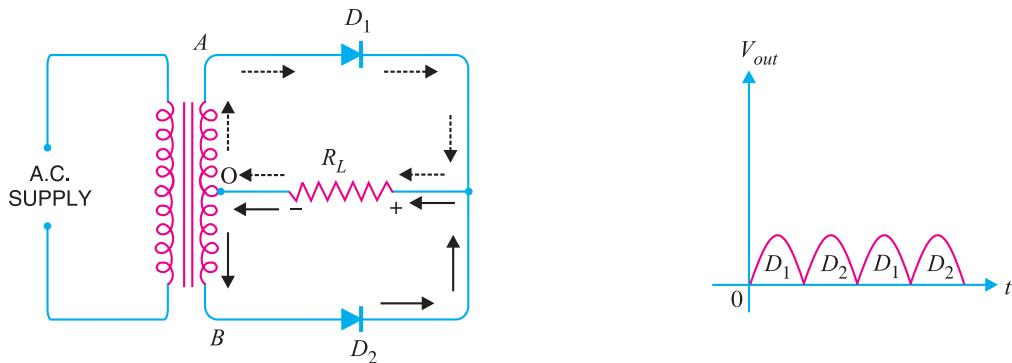

Fig. 6.24
The circuit employs two diodes D_1 and D_2 as shown in Fig. 6.24. A centre tapped secondary winding AB is used with two diodes connected so that each uses one half-cycle of input a.c. voltage. In other words, diode D_1 utilises the a.c. voltage appearing across the upper half (OA) of secondary winding for rectification while diode D_2 uses the lower half winding OB .
Operation. During the positive half-cycle of secondary voltage, the end A of the secondary winding becomes positive and end B negative. This makes the diode D_1 forward biased and diode D_2 reverse biased. Therefore, diode D_1 conducts while diode D_2 does not. The conventional current flow is through diode D_1 , load resistor R_L and the upper half of secondary winding as shown by the dotted arrows. During the negative half-cycle, end A of the secondary winding becomes negative and end B positive. Therefore, diode D_2 conducts while diode D_1 does not. The conventional current flow is through diode D_2 , load R_L and lower half winding as shown by solid arrows. Referring to Fig. 6.24, it may be seen that current in the load R_L is **in the same direction** for both half-cycles of input a.c. voltage. Therefore, d.c. is obtained across the load R_L . Also, the polarities of the d.c. output across the load should be noted.